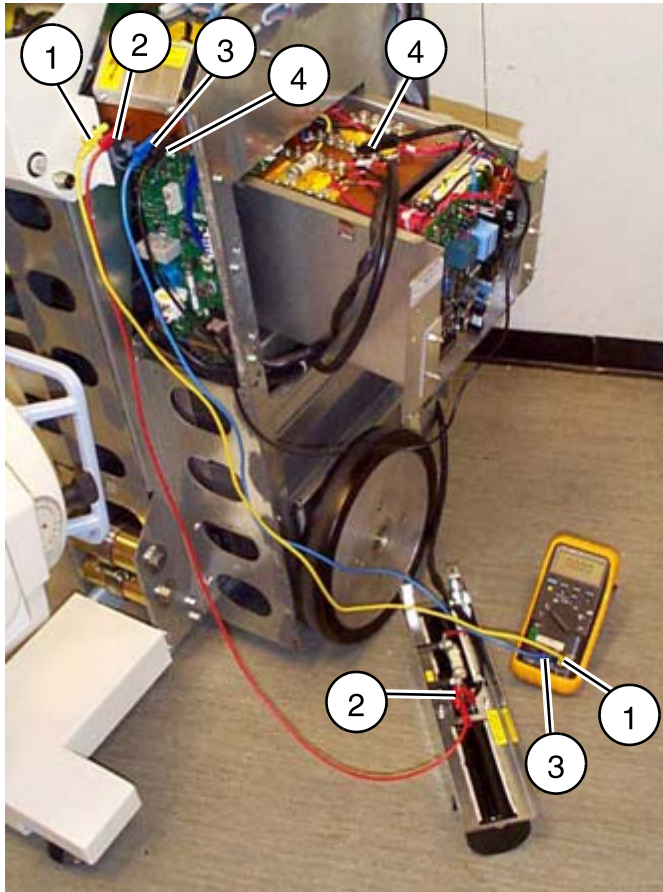

Fig. 6:
- Measure the voltage on the capacitors in M11 and check that the voltage level is <2 V DC. If not, discharge the capacitors with R103, see (Fig. 6 / p. 16) .